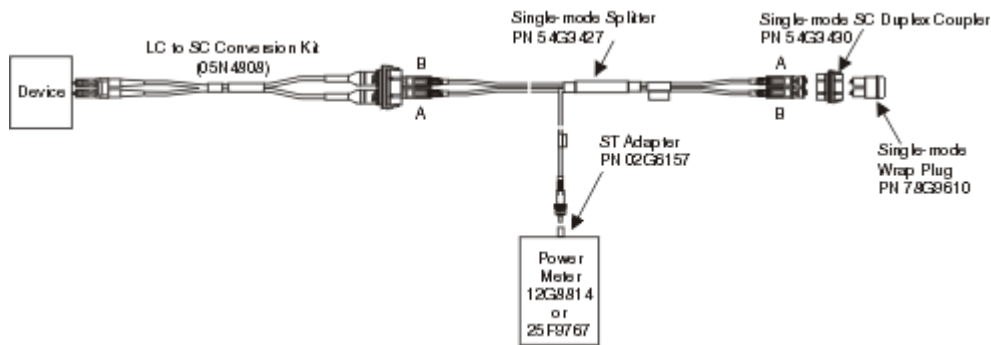
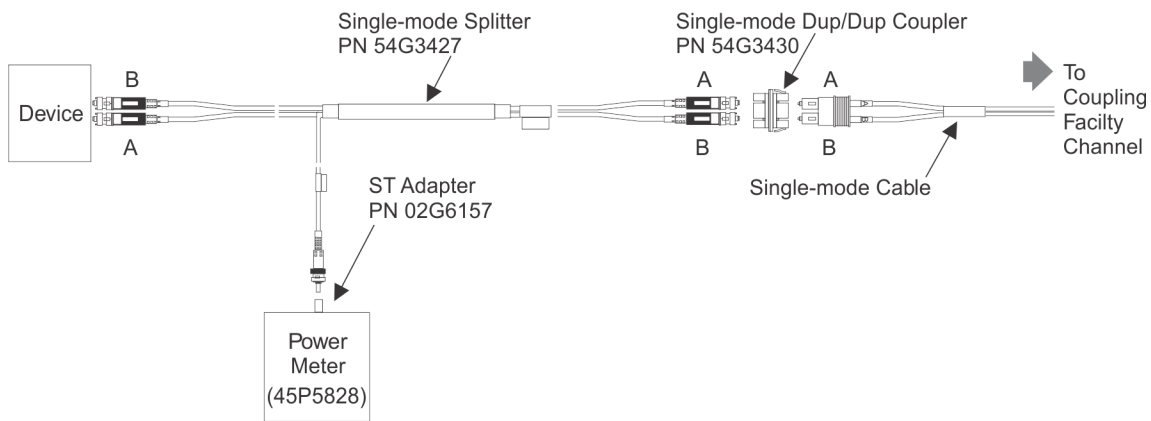
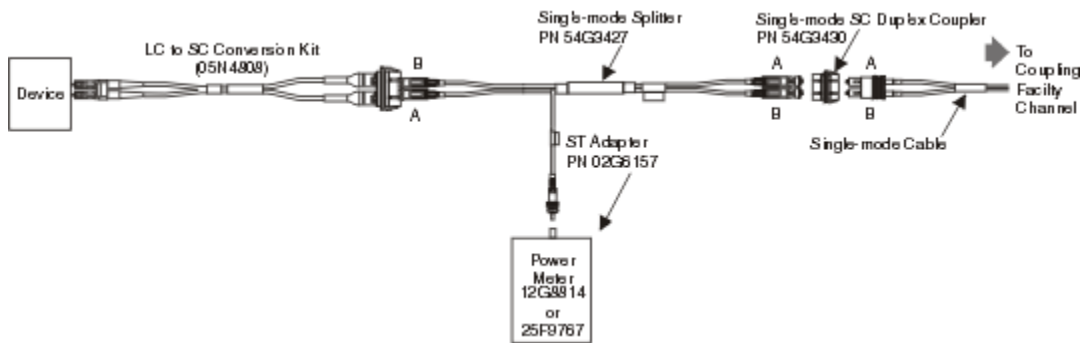

Figure 81. Measuring device transmitter levels for an ISC3 operating at compatibility mode
Figure 82. Measuring receive-in power for a single-mode coupling link (ISC Legacy)
Figure 83. Measuring receive-in power for an ISC3 operating at compatibility mode to ISC legacy link (ISC3 to ISC legacy)
For ISC3, connect the LC to SC conversion kit, part number 05N4808, between the splitter and the device (see Figure 81 on page 79).
5. If the transmitter power is within specification limits, connect the test equipment (see Figure 83 on page 80 or Figure 81 on page 79).
Make sure the connectors are clean; then assemble the test equipment (using Figure 82 on page 80 or Figure 83 on page 80) as follows:
For ISC3, connect the LC to SC conversion kit, part number 05N4808, between the splitter and the device (see Figure 83 on page 80).
- If **No**, return to Figure 82 on page 80 or Figure 83 on page 80 and repeat the procedure for the other device.